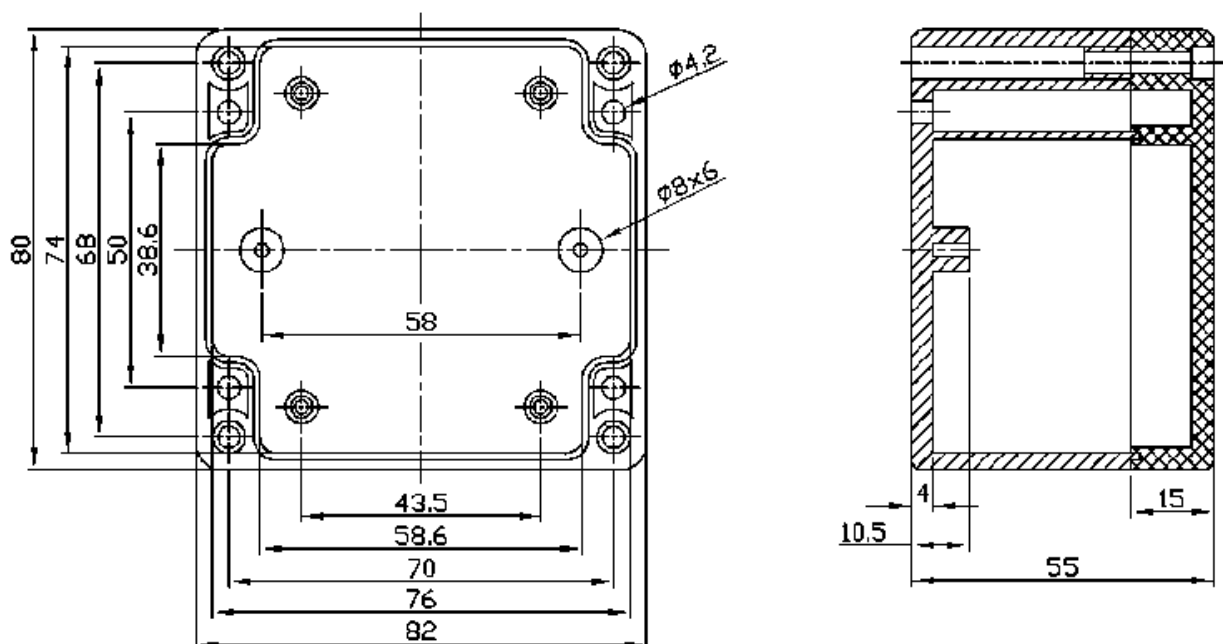

Figure 3 Sealed Polycarbonate Enclosures 82 x 80 x 55mm details
- Sealed Polycarbonate Enclosures 82 x 80 x 55mm from Jaycar. See Fig 3 for details